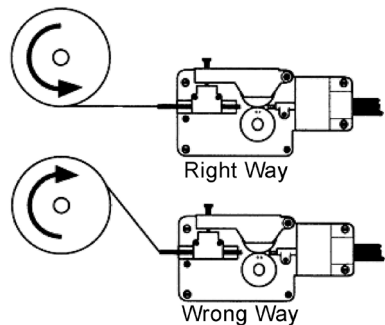

Fig. 4
4. Place the spool on the spindle so the wire is straight, not at an angle, when it enters the welding unit mechanism (Fig. 4).